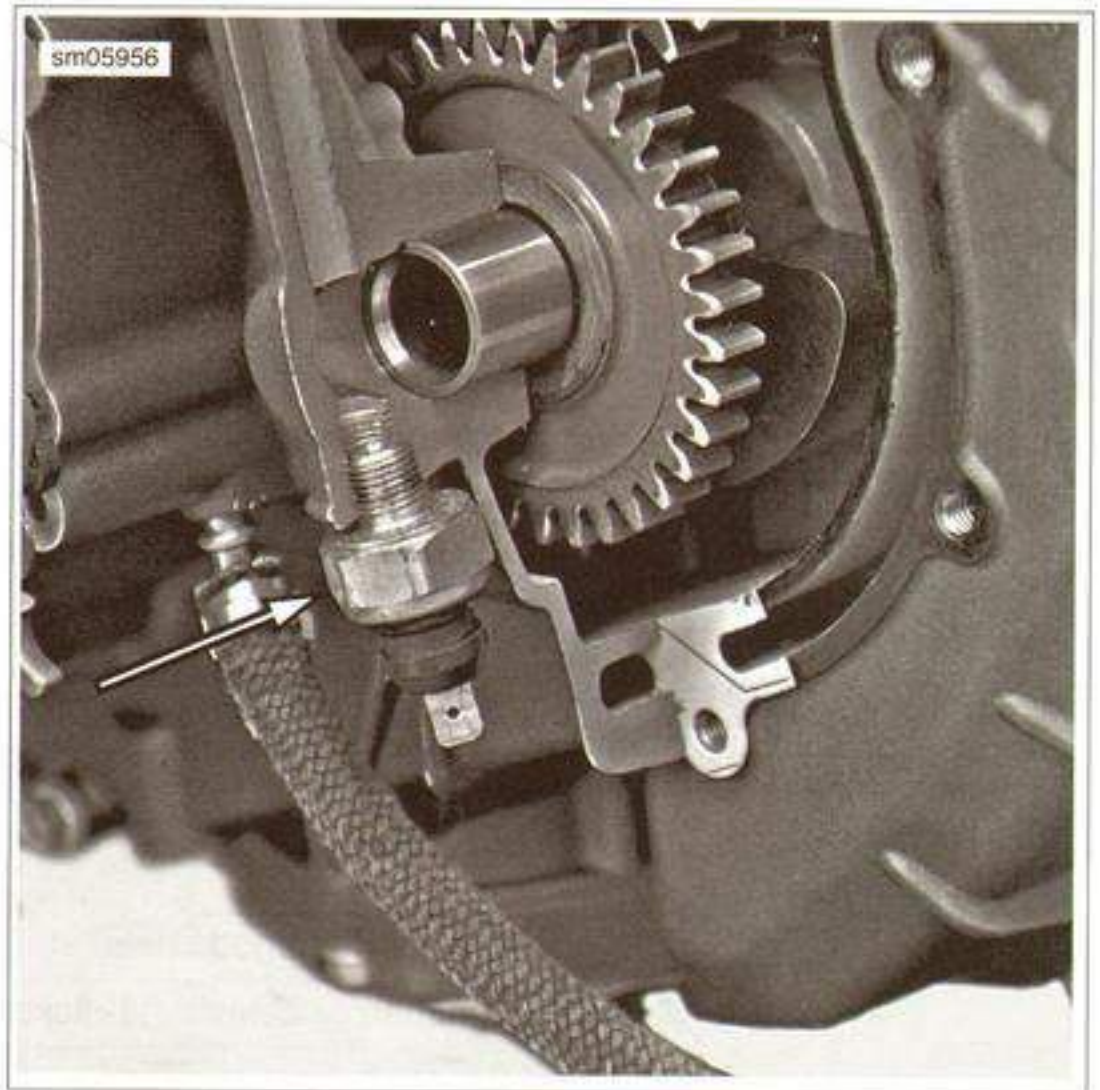

Figure 3-1. Oil Pressure Switch (cut-away engine)
1. See Figure 3-1. Unplug connector from oil pressure indicator lamp switch located under the oil pump next to the oil filter mount.